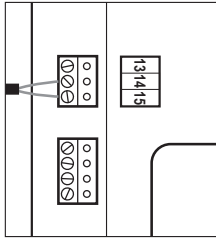

Figure 2. AquaLink RS or Remote TSTAT Connection (2-Wire Connection)
- Wire as shown in Figure 2.
- Câbler comme illustré sur la Figure 2.